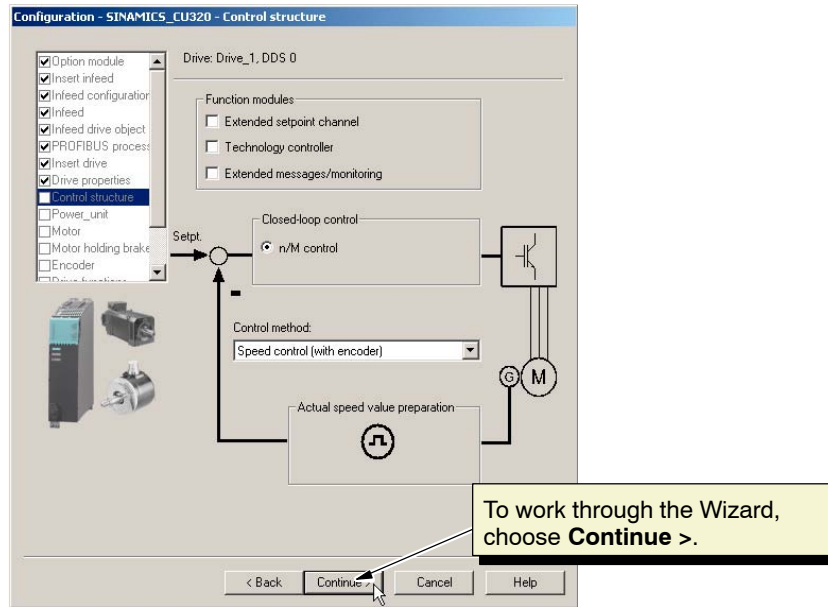

Fig. 5-17 Project Wizard
3. Click **Carry out drive configuration**. The project Wizard for configuring the drive is displayed (see Fig. 5-17).